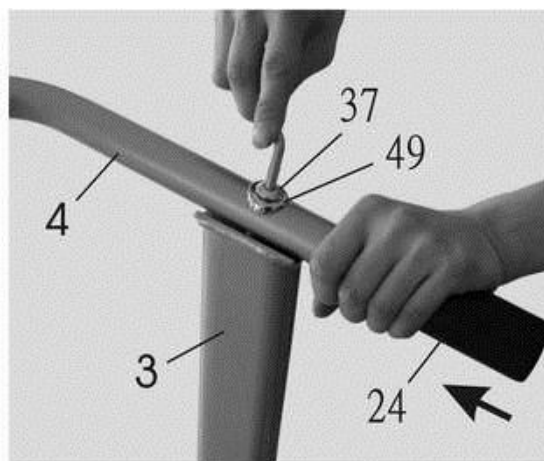

Figure 4b
Attach the Front handlebar (4) on the arc plates of Left and Right handlebar supports (2, 3) with two Bolts (37) and Arc washers (49). Finally, cover two Hand foams (24) to the Front handlebar (4). (See figure 4b)